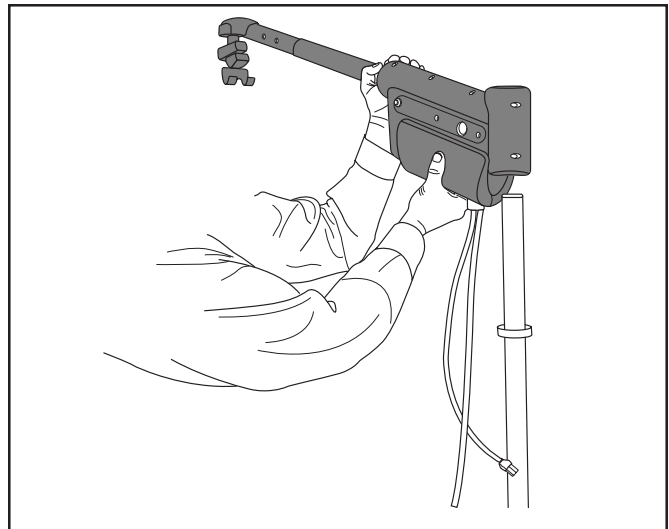

Figure 6. Motor Housing Installation
4. Lower the motor housing over the upper post until it rests on the split ring collar. **See figure 6.**
You may need to adjust the height of the motor housing (see figures 6 and 7) or the length of the boom-arm (see figure 8) so the boom arm can swing freely without hitting at any point inside the vehicle.